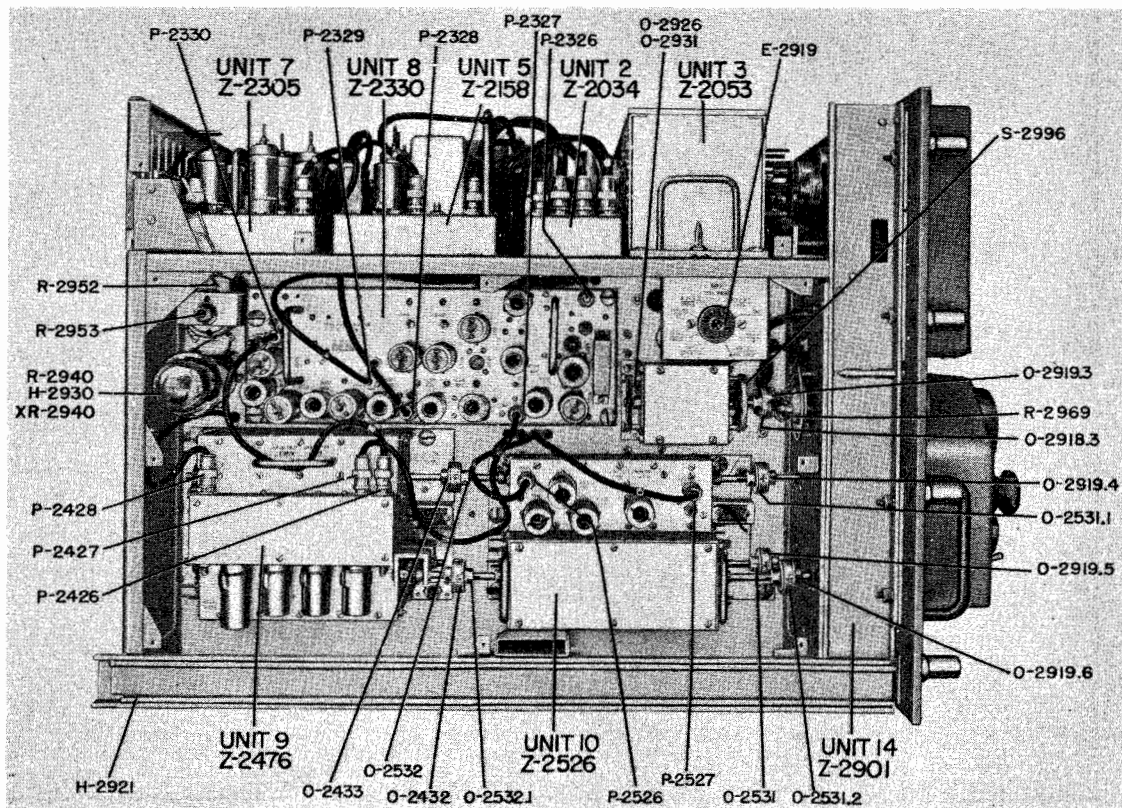

Figure 7-6. Radio Frequency Oscillator O-275/SRT, Covers Removed, Left Side View
(1) ELECTRICAL ADJUSTMENTS.—The regulated 6.3-volt a-c filament supply for the RFO is regulated by thermal resistor R-2929 in the primary of the regulated filament supply. This voltage may be checked at 6.3 V A.C. REG. on TEST POINTS socket E-2919, located on the left side of the RFO drawer. This socket is accessible without removing the protective side panel (figure 7-6).
To adjust the regulated filament voltage, remove the protective side panel (left) and adjust potentiometer R-2953, located in the upper left-hand corner of the RFO drawer (figure 7-6).
For removing a subunit in the RFO, it is essential at all times that the subunit switch shaft be in position 0 as indicated by the position of red pointer on the subunit shaft. It will be found that when the above condition is met, the flexible coupler (figure 7-6) will be in a position to uncouple and the subunit can be
removed from the mounting (figures 7-6, 7-7, 7-8, and 7-9).
All subunit switch shafts are provided with flexible couplers adjacent to the inner front panel, directly behind the associated sprocket (figures 7-6 and 7-7). In the subunit 8 drive mechanism, however, adjustable bearings are provided on its drive shaft to compensate for variations in tolerances; this is a *factory adjustment*.